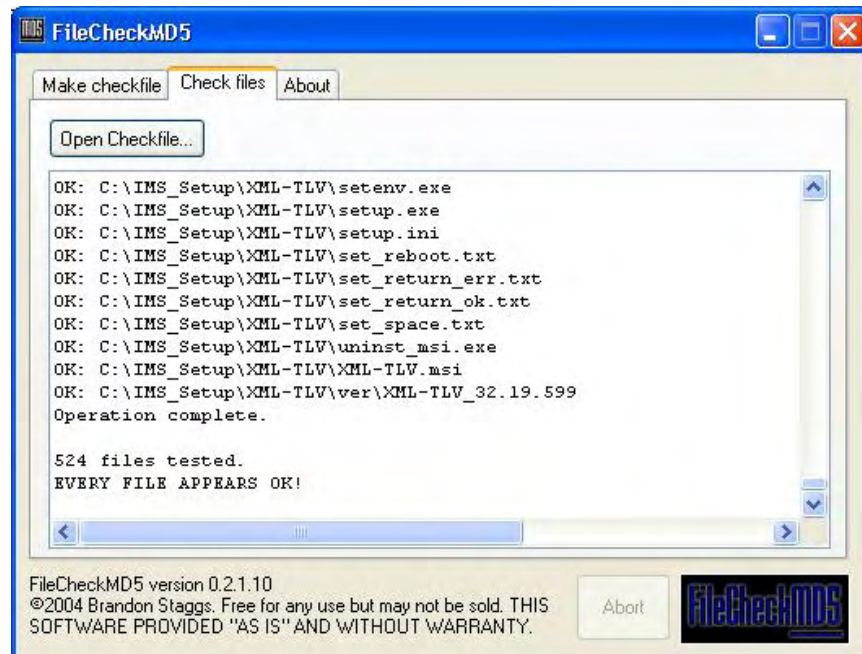

Figure 1-78. md5 Filecheck Executed
13. Locate the file, **filecheckmd5.exe** in the right part of the Explorer and double click it. A "FileCheckMD5" window is displayed (Figure 1-78).